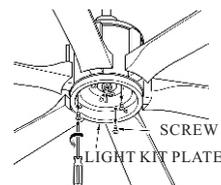

FIG.14
3. Remove 3 screws on light kit plate.(see Fig.14)